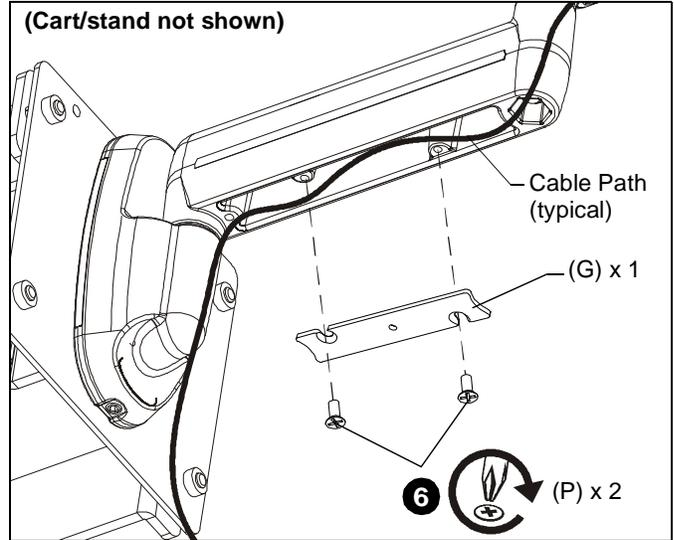

Figure 10
- Carefully insert cables in cavity located in lower portion of non-height adjustable arm. (See Figure 10)
- Install cable management cover (G) with two #8-32 x 3/8" Phillips flat head screws (P). (See Figure 10)